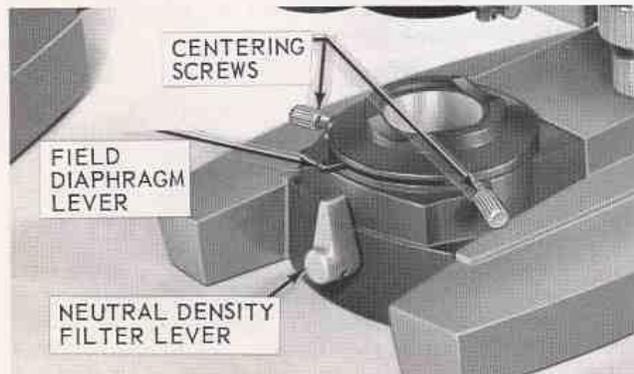

Figure 28. Cat. No. 1036A Illuminator
- (1) Transformer Setting. For visual observation, operate the transformer at any voltage setting most comfortable. A separate, 33 mm. diameter, blue glass filter is supplied which fits into the top of the illuminator. For visual observation, it gives a quality of light approximating daylight in color temperature and will be preferred for most uses.
- (2) Neutral Density Filter. A integral neutral density filter is incorporated as standard equipment in the Cat. No. 1036A illuminator (figure 28). It has a transmission of approximately 10% and is controlled by a lever in the front of the illuminator. Because of the high intensity provided with this illuminator, for ordinary bright field work it will probably be more comfortable to use the neutral density filter.
Initial centration of the 1036A In-Base illuminator is most important. This is accomplished by visually aligning the mount and housing of the illuminator as shown in figure 28. Using the two centering screws,
9. Using the two centering screws simultaneously (figure 28) center the image of the field diaphragm to the periphery of the field of view. After centering, open the field diaphragm until the iris leaves "just" disappear from the field of view.